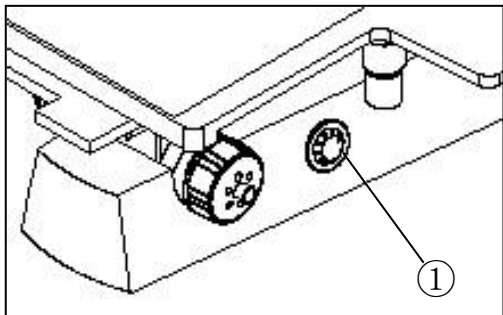

Fig.21
3.2.2 Adjusting the Brightness (Fig.21)